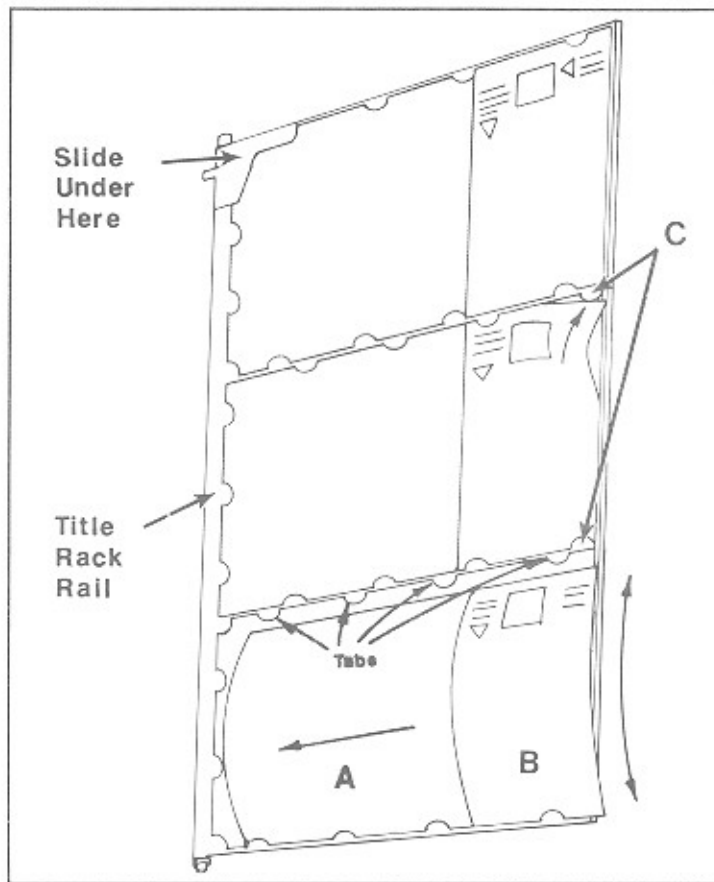

Figure 2-4. Loading The Title Rack
4. Insert the CD booklet under the top and bottom tabs of the title rack. Slide the CD booklet toward the pivot of the title rack until the booklet is trapped by the molded stops on the title page (*see figure 2-4, ref A*).
5. Insert the folded title strip under the top and bottom tabs of the title rack. Slide the title strip until the disc number shows in the opening of the title strip and the title strip is locked in place by the molded stops (*see figure 2-4, ref B*).
6. All of the tabs surrounding the CD booklet and title strip should be holding them in place. If you missed a tab, carefully tuck the loose paper under the tab as shown in *figure 2-4, ref C*.